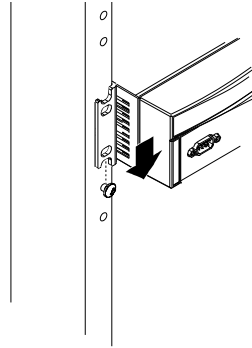

Figure 1-8. Position the Switch for Rack Mounting
- Place the switch in the rack and lower it so the notches in the bottom of the bracket slide onto the screws you installed in step 1. Tighten these screws—be careful not to overtighten. (Refer to figures 1-8 and 1-10.)